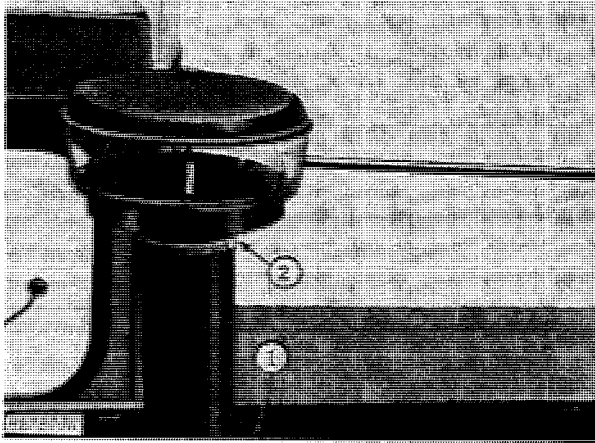

Fig. 1-Attaching Precleaner
1. Attach precleaner tube to air cleaner cannister (Fig. 1).
2. Attach precleaner to airstack (Fig. 1).